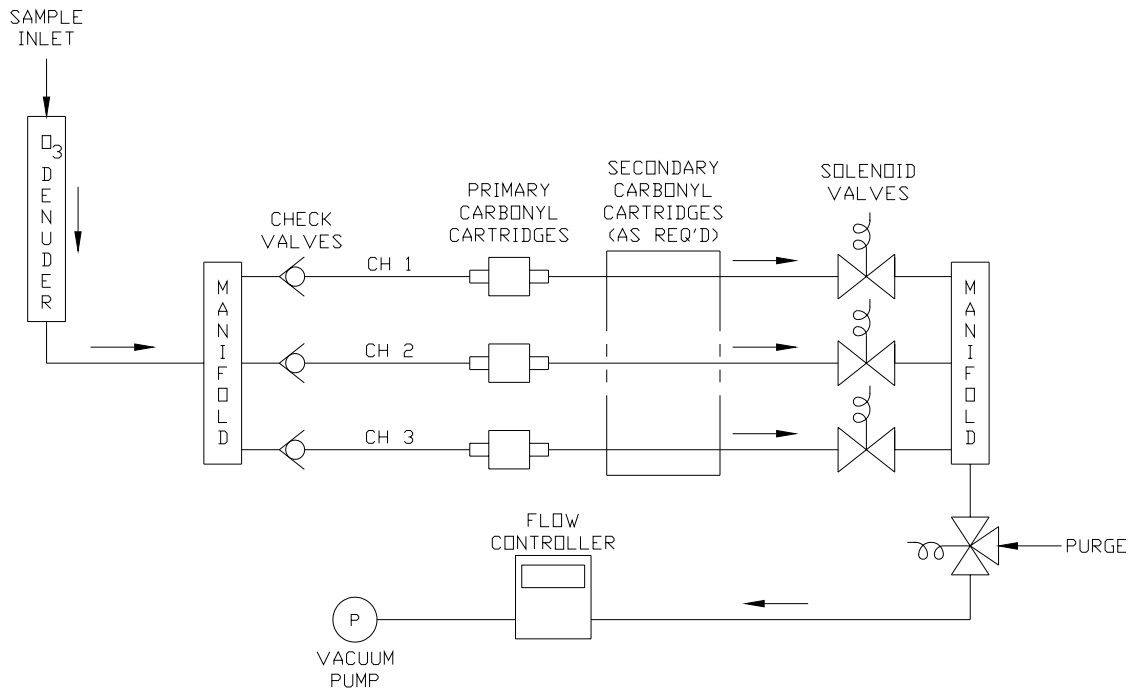

Figure 1. Tisch Aldehyde Sampling System Configuration.
The Tisch Environmental 3-channel-event sampling system configuration includes the following primary components (Figure 1):
- 3.1.14 After sample collection, record the run time, day of the week and elapsed time indicator readings. Record any problems in sample collection. Fill in the sampling log sheet (Figure 1). Do not skip any lines. Also record any remarks that you may have, such as power, outages, etc.